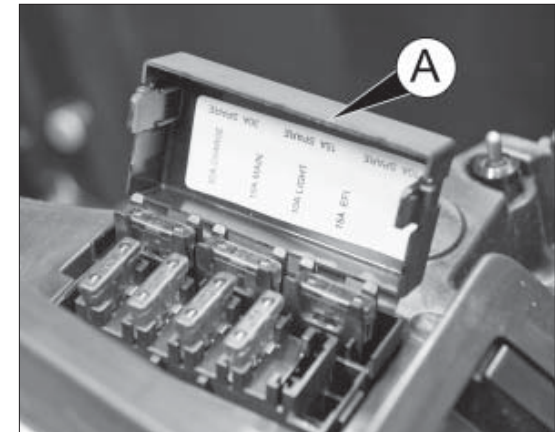

fig. 1
- lift cover A fig.1 to access the fuses;